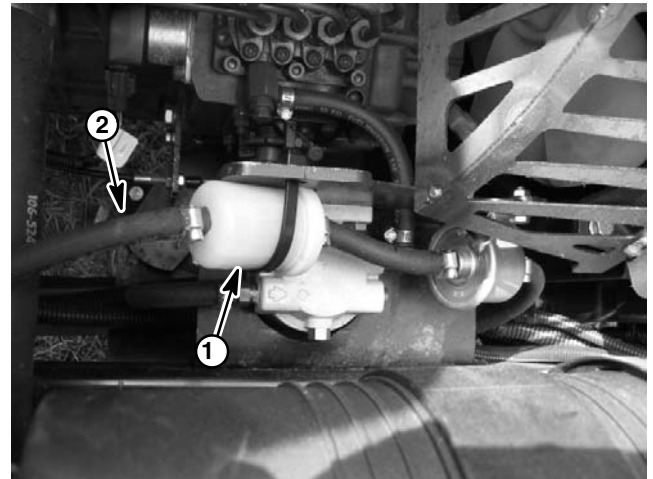

Figure 2
3. Remove fuel supply hose from fuel filter (Fig. 2). Pull fuel hose through R-clamps on frame and position hose end into a suitable container to drain fuel tank.